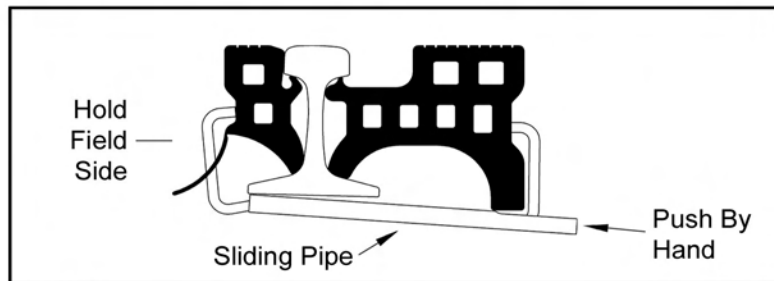

Figure 5
- 6 Hold field side and push sliding pipe under the rail (by hand) to hold clamp into position (Fig. 5)